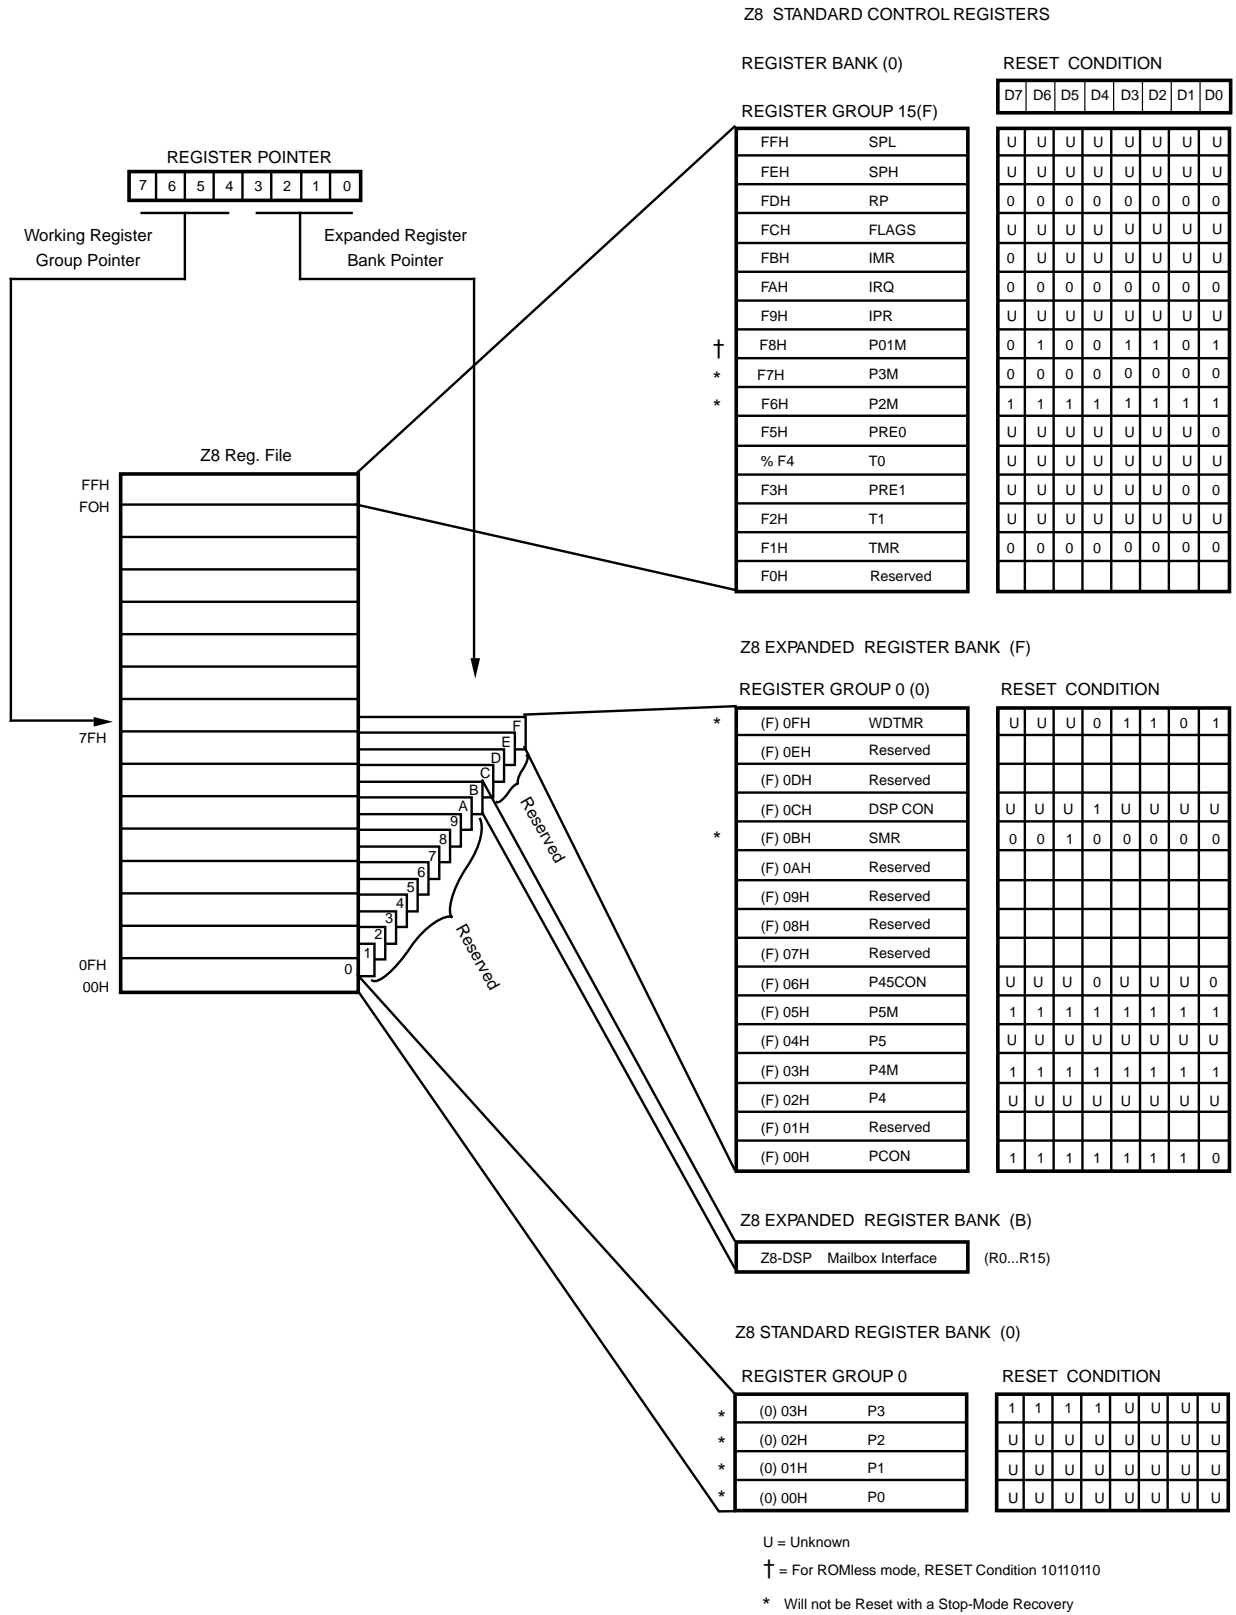

Figure 20. Expanded Register File Architecture
**Expanded Register File.** The register file on the Z8 has been expanded to allow for additional system control registers, and for mapping of additional peripheral devices along with I/O ports into the register address area. The Z8 register address space has now been implemented as 16 banks of 16 registers groups per bank (Figure 20). These register banks are known as the ERF (Expanded Register File). Bits 7-4 of register RP (Register Pointer) select the working register group. Bits 3-0 of register RP select the expanded register bank (Figure 20).